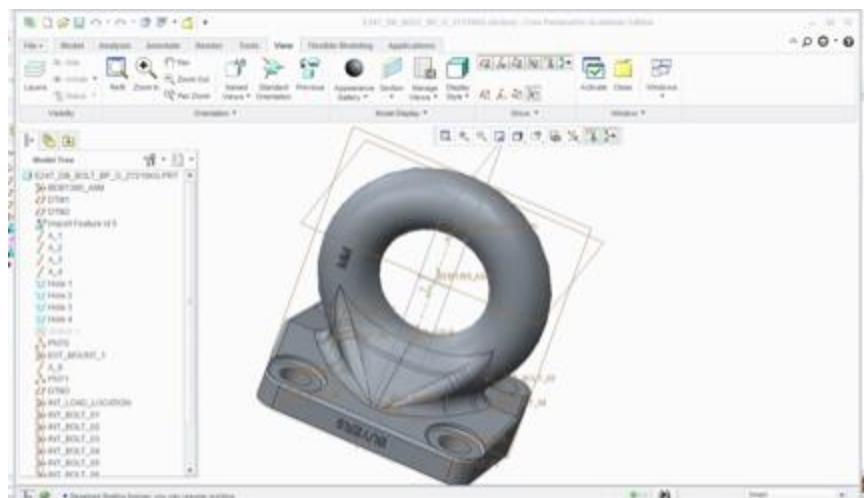

Figure 52
1. Open the Creo part file (see example in Figure 52).